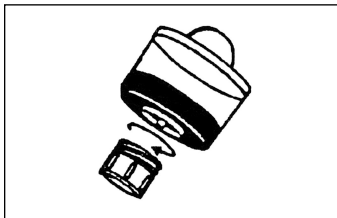

Figure 4
- b) To remove the remaining retentate, twist the insert release onto the sample reservoir (Figure 4).